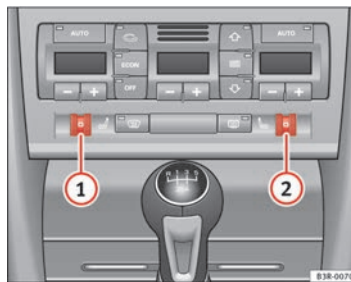

Fig. 144 Detailed view of the dash panel: Thumbwheel controls for seat heating
Turn thumbwheel ① or ② ⇒ fig. 144 to switch on and adjust the heating on the left or right front seats.